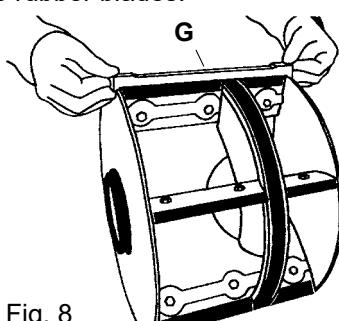

Fig. 8
2. Mount the new blades on the rotor. The blades are mounted in long holes for height adjustment, see figure 8. Do not tighten the screws in such a way that the blades are deformed (tightening torque 8 Nm). It is recommended to use the shown special tool (G) to secure that the blades are mounted in the right height. The tool can be provided by Kongskilde, sales no. 121 000 696. The diameter of the rotor with blades is: Ø395 mm. Only use original Kongskilde rubber blades.